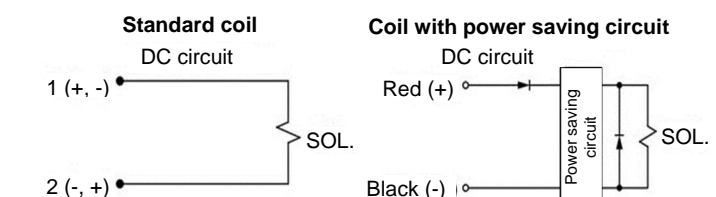
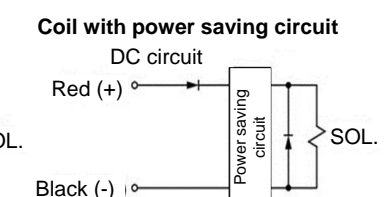

Figure 3
Figure 4
- Solenoid valves with power-saving circuits (coil part number "-5GE") have polarity, so follow the wiring diagram (Fig.4) when making connections. Standard coils have no polarity (Fig.3). The solenoid valve will not switch properly if the polarity is reversed.